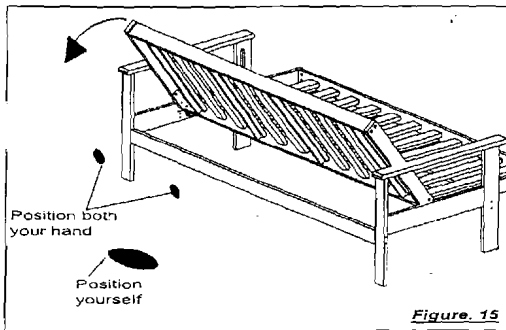

Figure 15
4. Pull down the seat deck gently and rest it on the front stretcher rail. (figure 15).